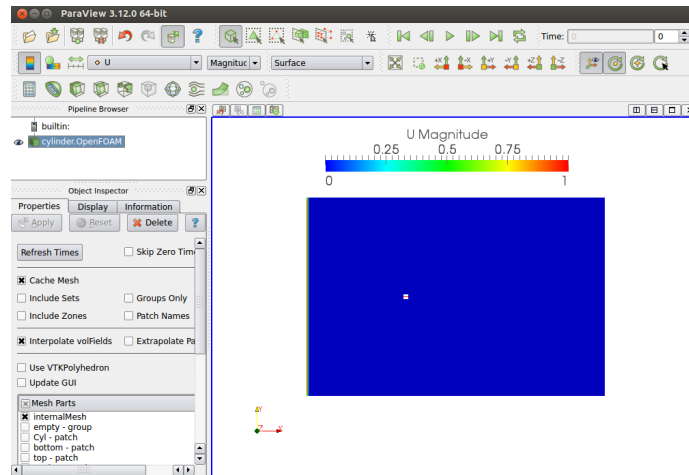
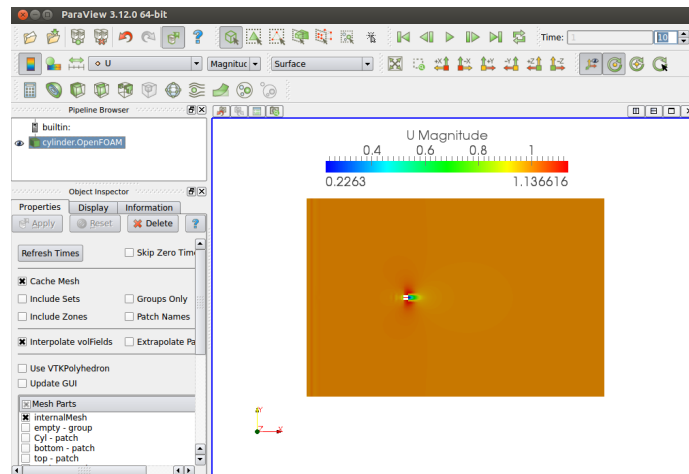

Figure 7.7: Initial velocity condition
Figure 7.8: Velocity at 1 sec
Launch paraview by typing **paraFoam** in the terminal window and once it opens click on the Apply button to view the geometry, Fig 10.1. In the active variable control menu change from Solid Color to Velocity (U). You can now see the initial conditions for velocity, Fig 7.7. To view the animation on the right hand top of paraview click on the play button of VCR menu. You can see the change in velocity in the paraview window with the passage of time, Fig 7.8.